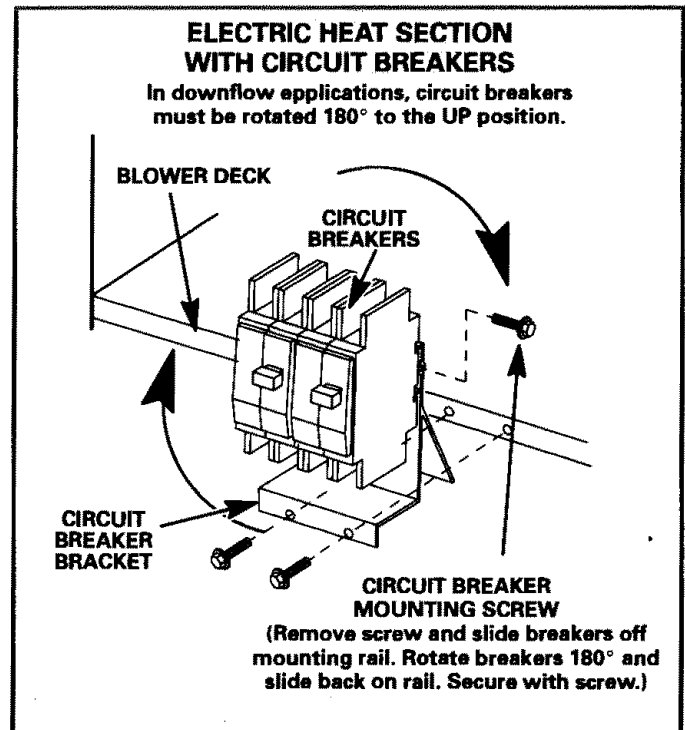

FIGURE 2
- 1 – Install circuit breaker on blower deck flange. Use provided screws to secure. See figure 2.
NOTE – When applied in the downflow position, the circuit breakers must be rotated to the UP position. See figure 2 and follow the procedure below.